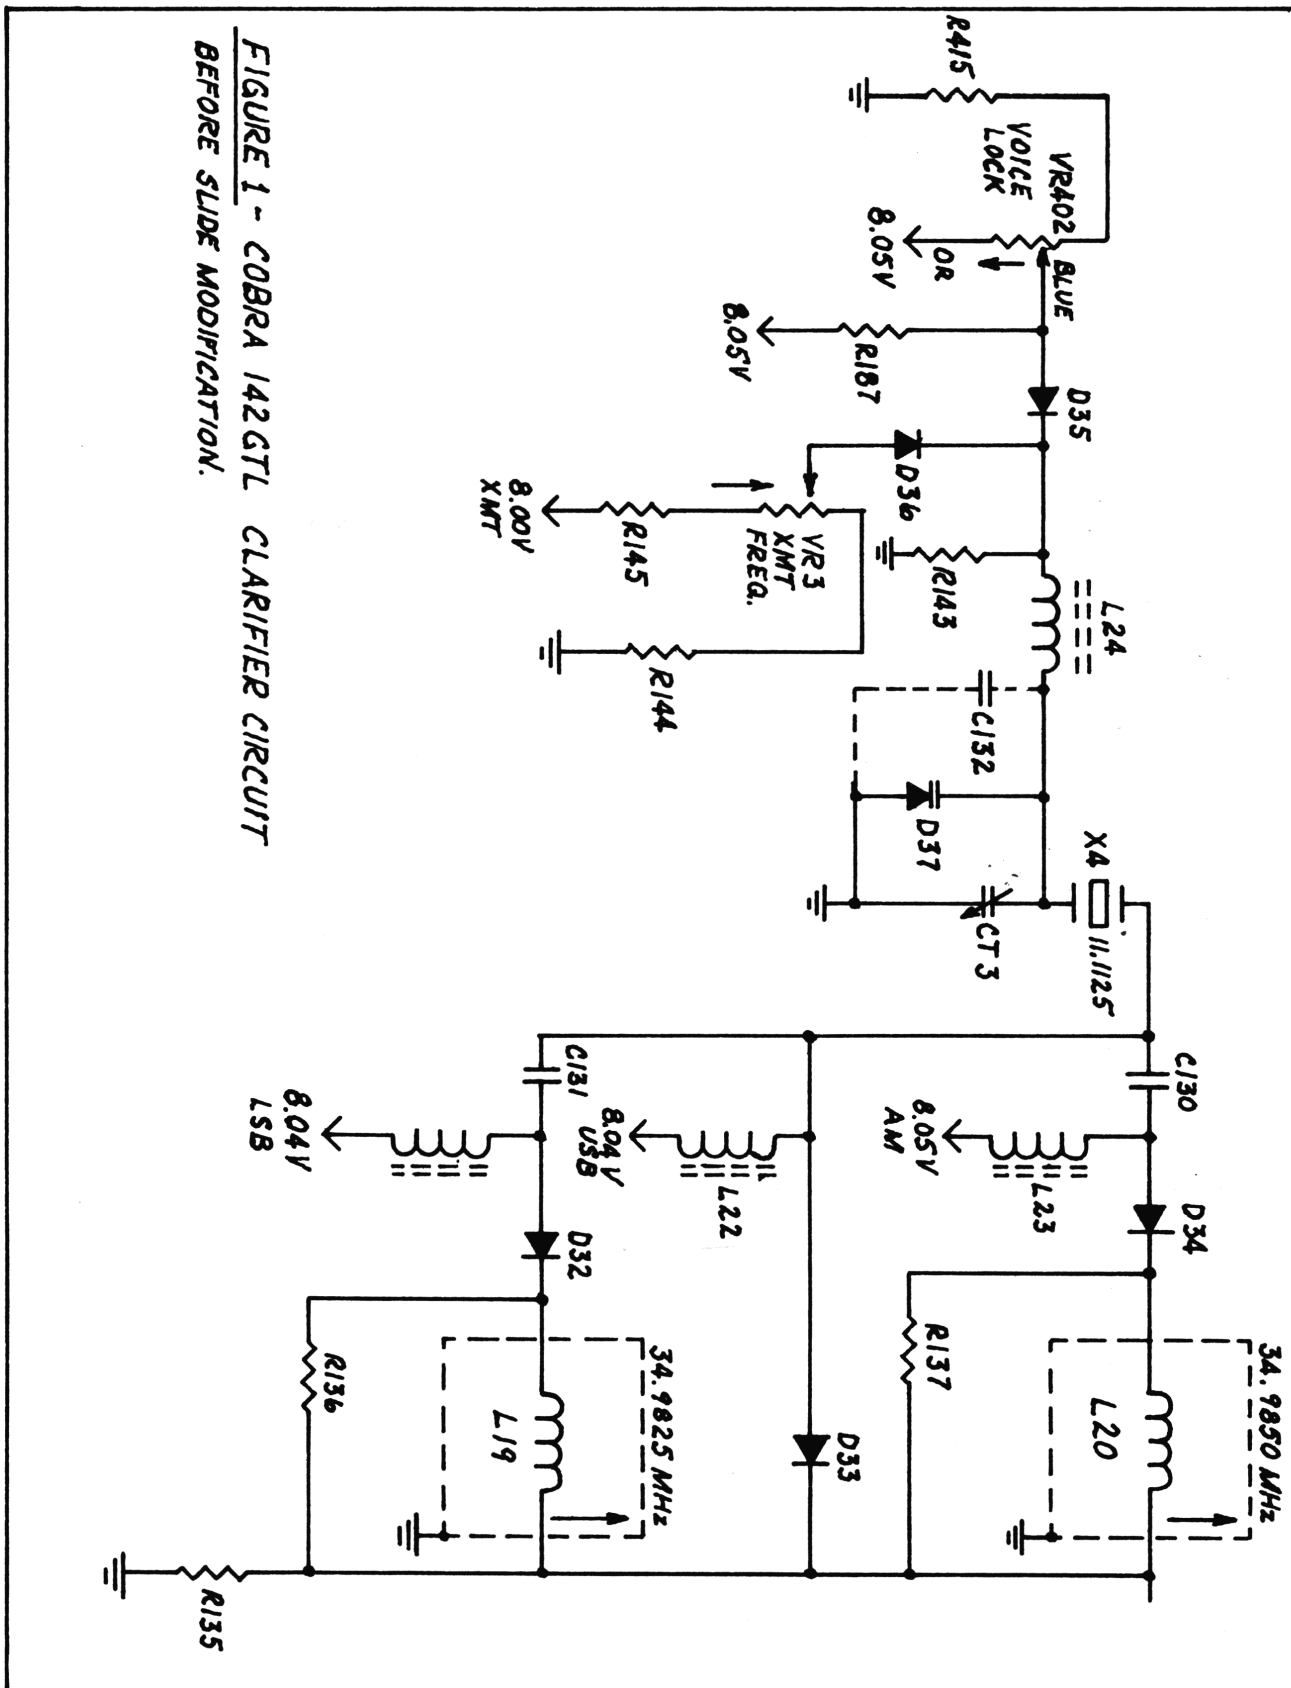

FIGURE 1 - COBRA 142GTL CLARIFIER CIRCUIT BEFORE SLIDE MODIFICATION.
2. The changes noted in paragraph 1 have been incorporated in the 40 channel units. All units should be checked to insure that the following changes are included. (Refer to Figures 1 and 2)
2. The changes noted in paragraph 1 have been incorporated in 40 channel units. All units should be checked to insure that the following changes are included. (Refer to Figures 1 and 2)